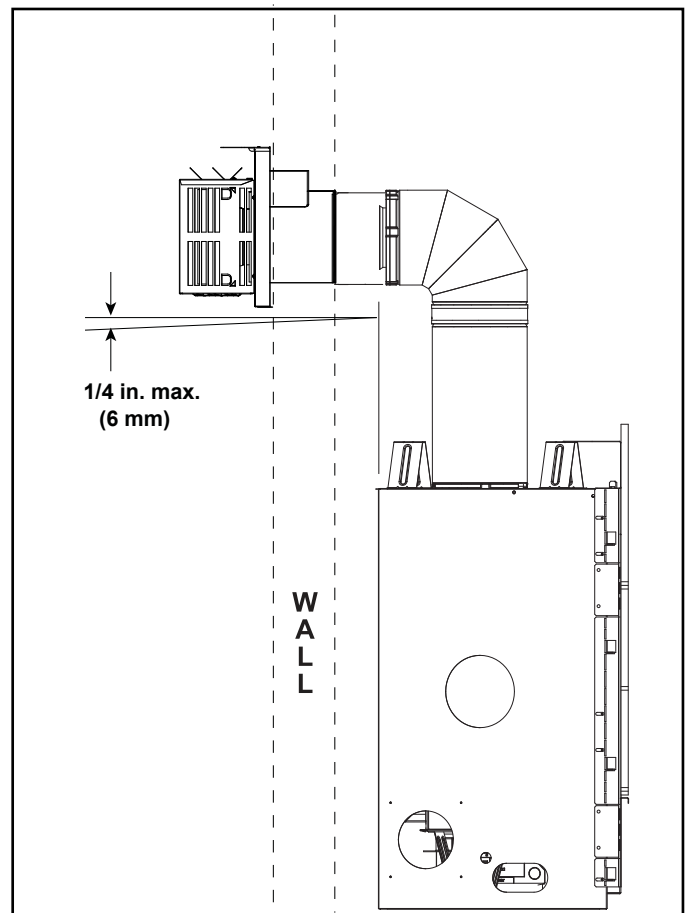

Figure 4.8 Vent Cap
- Horizontal termination cap should have a 1/4 in. (6 mm) downward slant to allow any moisture in cap to be released. See Figure 4.8.